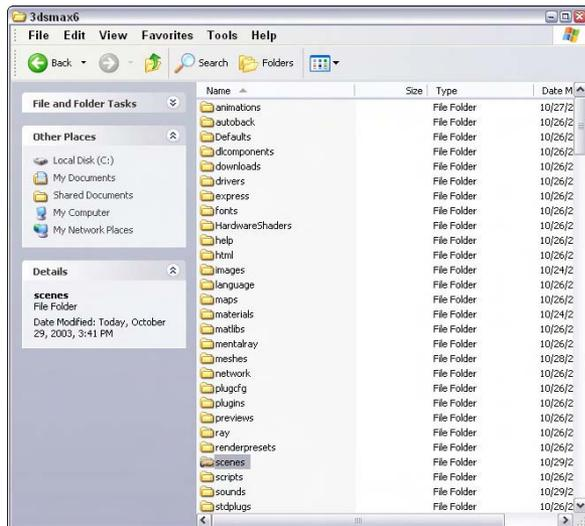

Figure 45-4: Other computers can now access the shared "scenes" directory.
- Click OK in each dialog box to close them all until you're back at the Windows Explorer. If you press F5, Windows refreshes the display and your directory now has a little blue hand holding the folder. Figure 45-4 shows the "maps" directory denoted as a shared directory.